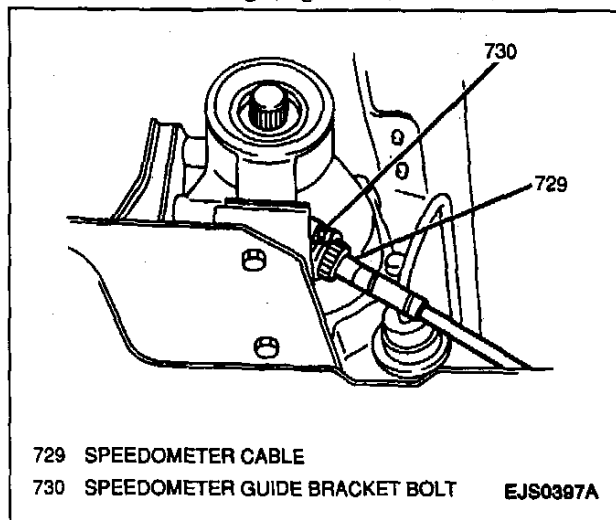

Figure 48—Speedometer Cable and Guide Bracket Bolt (3L30, 3-Speed)
Figures 48 and 49
2. Speedometer cable from speedometer driven gear case (Figure 48).
3. One bolt and speedometer guide bracket from extension housing (Figure 48).
5. One bolt and speedometer guide bracket to extension housing (Figure 48).
Figures 48 and 52 through 57
- 7. Speedometer cable from speedometer driven gear case (Figure 48).
- 8. One bolt and speedometer guide bracket from transmission (Figure 48).